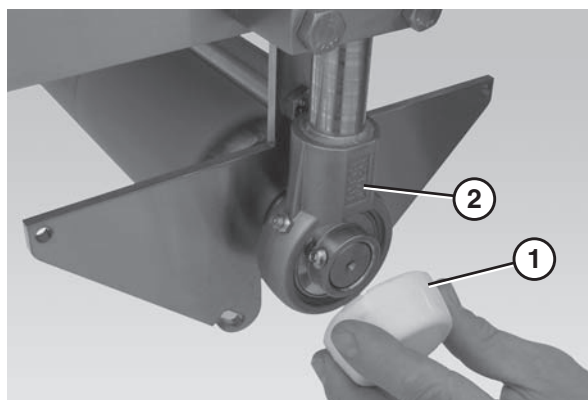

Figure 62
10. Remove the bearing cover (Figure 62, item 1) on the center drive shaft assembly (Figure 62, item 2).